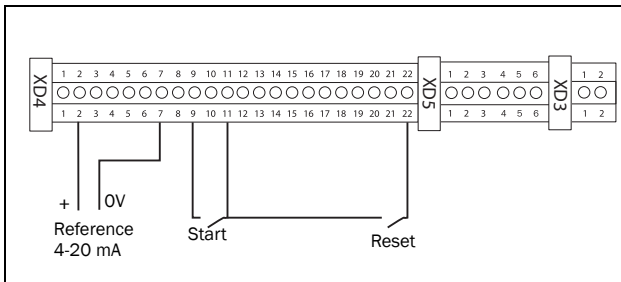

Fig. 22 Wiring
5. Connect digital and analogue inputs/outputs as in Fig. 22.